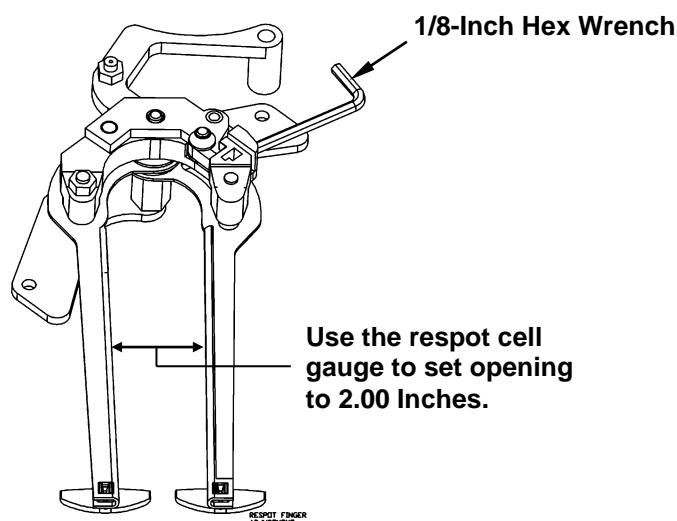

Figure 4.2-19
2. Using a 1/8-inch hex wrench and the widest part of the respot cell gauge (070-006-519), adjust each of the respot cells for a 2-inch opening between fingers approximately mid way along the fingers (see Figure 4.2-19). This adjustment can be made with the respot cell either in or out of the table.